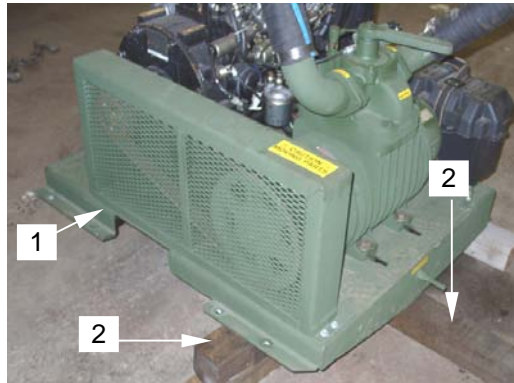

Figure 5. Setting Skid onto Dunnage
14. Lift engine/vacuum pump skid (**figure 5, item 1**) off the trailer frame and set it upon dunnage (**figure 5, item 2**) (preferably lengths of 2-inch x 4-inch lumber).